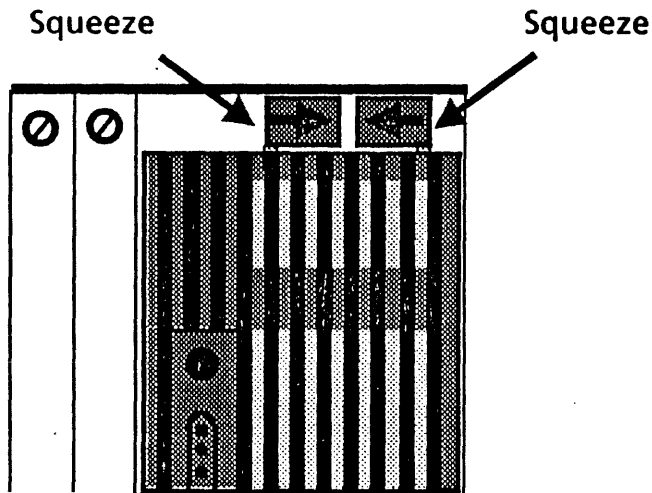

Figure 4-1 Unlatching the Rear Cover
3. Press the two rear cover tabs towards each other to release the cover. (Figure 4-1)